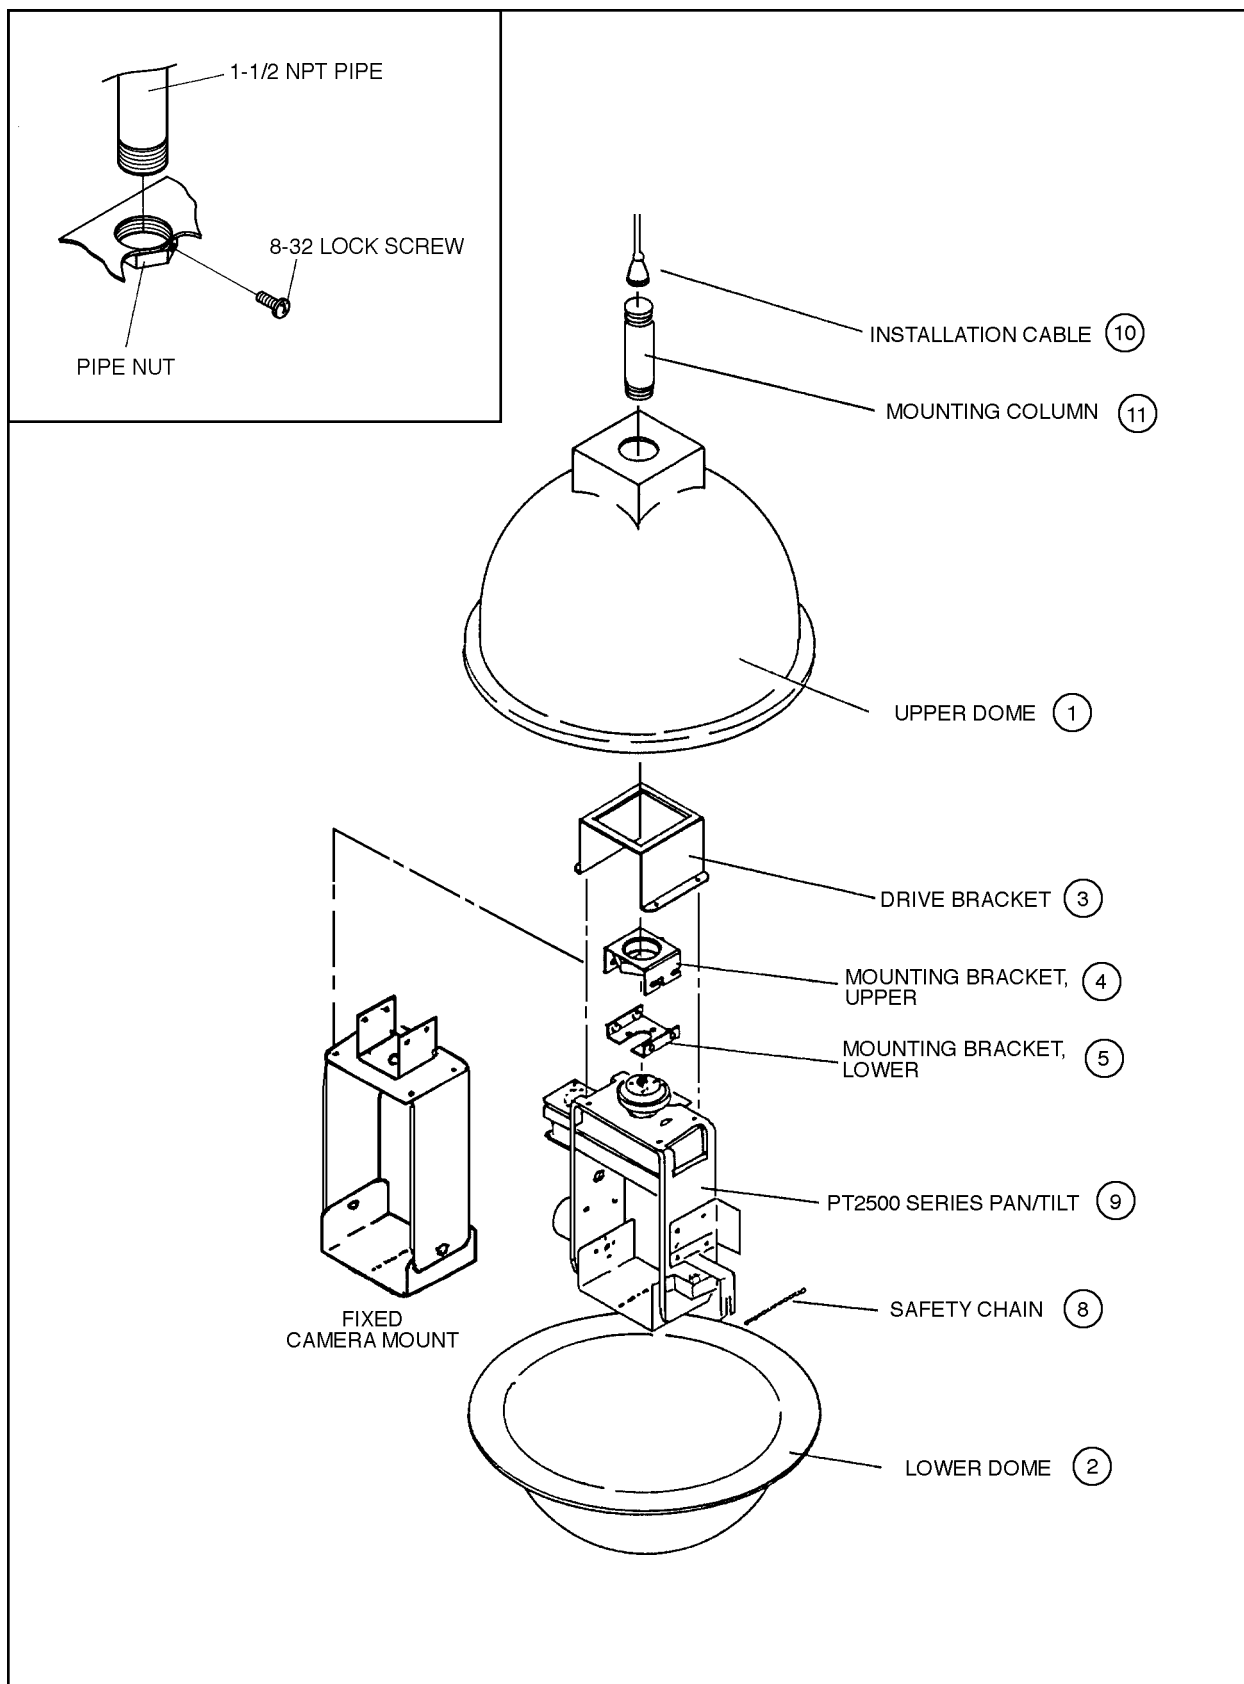

Figure 9. SS2000/SS2002 Exploded Assembly Diagram
To install your dome system, perform the following steps (refer to Figure 9):
2. Screw the mounting flange (item 4) onto the pipe and tighten securely (approximately 20 ft lb). Tighten the 8-32 screw in the pipe nut to lock the pipe threads.
3. Align the three-hole pattern in the pan spindle with the holes in the lower bracket (item 5), and attach with 1/4"-20 x 5/8" hex head bolts and lock washers provided. Tighten firmly.
4. Attach the upper (drive) bracket (item 3) to the bottom (spindle side) of the pan/tilt using four (4) 8-32 x 1/2" pan head screws and lock washers provided. Refer to Figure 9 for proper orientation.
6. Assemble the lower bracket and pan/tilt to the mounting flange (item 4) using 1/4" x 5/8" hex head bolts and flat washers.